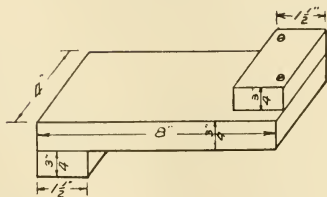

FIG. 14.—BENCH HOOK ASSEMBLED.
14. **Assembling.**—The last operation is assembling; this is putting together the various pieces, completing the project. Place the shorter piece on one end, as in Fig. 14, and clamp it in the vise with one edge flush,